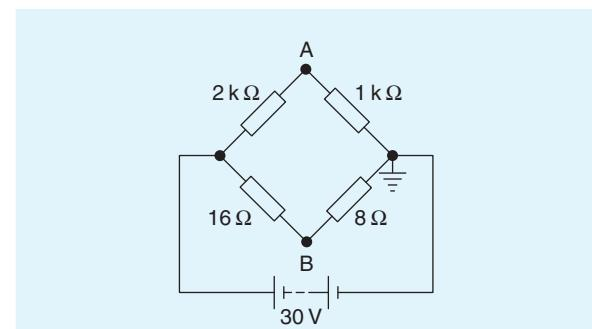

Figure 5.39
3. In the bridge circuit of Fig. 5.39 calculate (a) the absolute voltages at points A and B, and (b) the voltage at A relative to B.